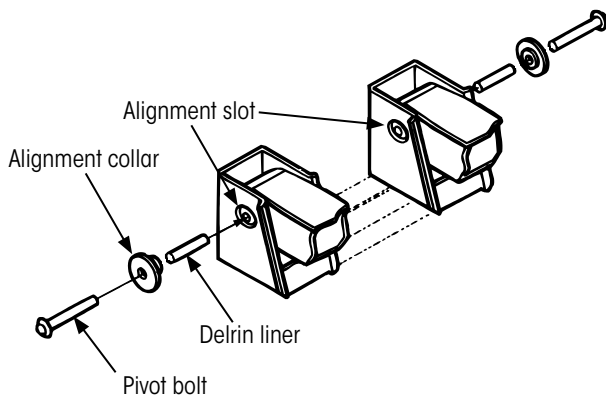

Figure 23: Pivot connection assembly, welded collar
1. **Insert** Delrin® liner into bushing inner metal (Figure 23).
5. As shown in Figure 23, working from the outboard side of the trailer, **insert** each pivot bolt toward the center of the trailer through the alignment slots and Delrin® liner (previously inserted in the bushing inner metal).